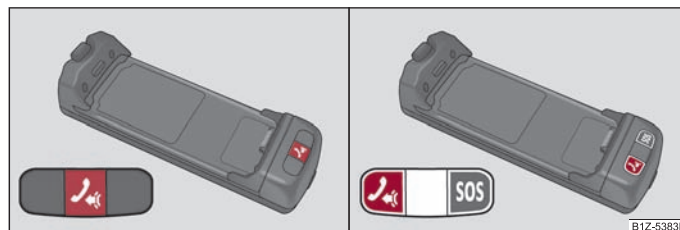

Fig. 125 Illustration image: Single-button adapter/two-button adapter
Function overview of the **PTT** ("push to talk") button on the adapter ⇒ fig. 125:
On some adapters, aside from the **PTT** button, the **SOS** ⇒ fig. 125 button also appears - on the right. After pressing the button for 2 seconds, the number 112 (Emergency call) is dialed.
- by briefly pressing the  button on the adapter¹⁴⁾ ⇒ page 124, fig. 125;